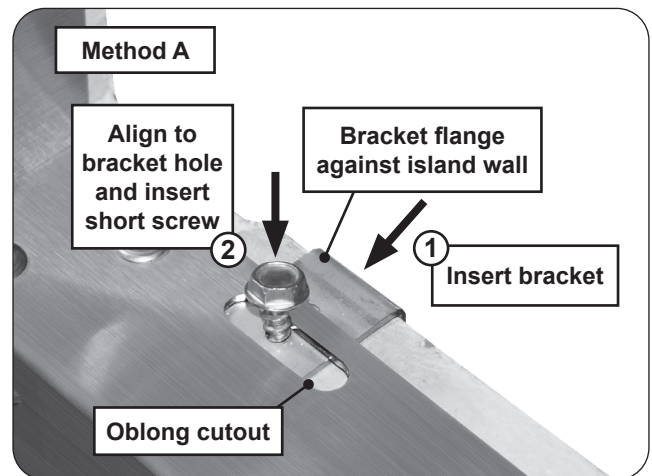

Fig. 3-2 Method A install detail
1. Use the oblong cutouts (or round holes) on opposite sides of the frame (either top and bottom or left and right). Reach from within the island and insert a bracket where a cutout exists, **between the wall and frame**. See Fig. 3-2, step 1.
2. While holding the rear of the bracket and the front of the frame **firmly** against the concrete wall, align a bracket hole to the frame's oblong cutout and insert a supplied short hex screw. Tighten the hex screw with a power drill and 5/16" hex driver (see Fig. 3-2, step 2). DO NOT OVERTIGHTEN.